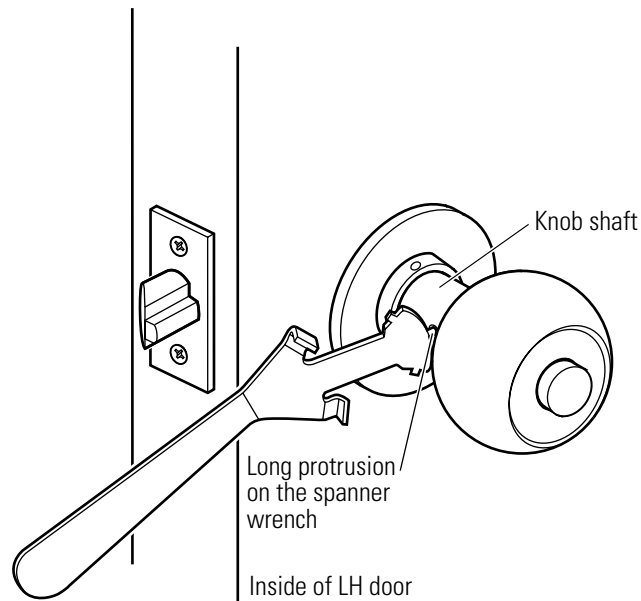

Figure 3.3 Removing the plain knob or button knob
1. Insert the long protrusion on the spanner wrench into the hole on the shaft of the knob, as shown in Figure 3.3.